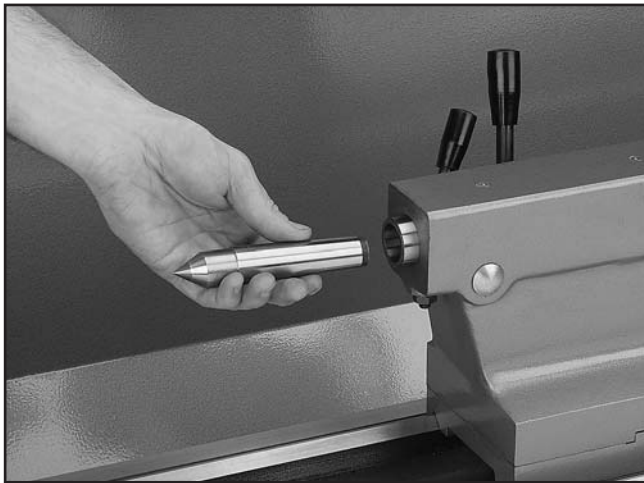

Figure 30. Inserting dead center.
2. Insert the dead center into the quill opening (see **Figure 30**). Matching tapers provide the locking action.